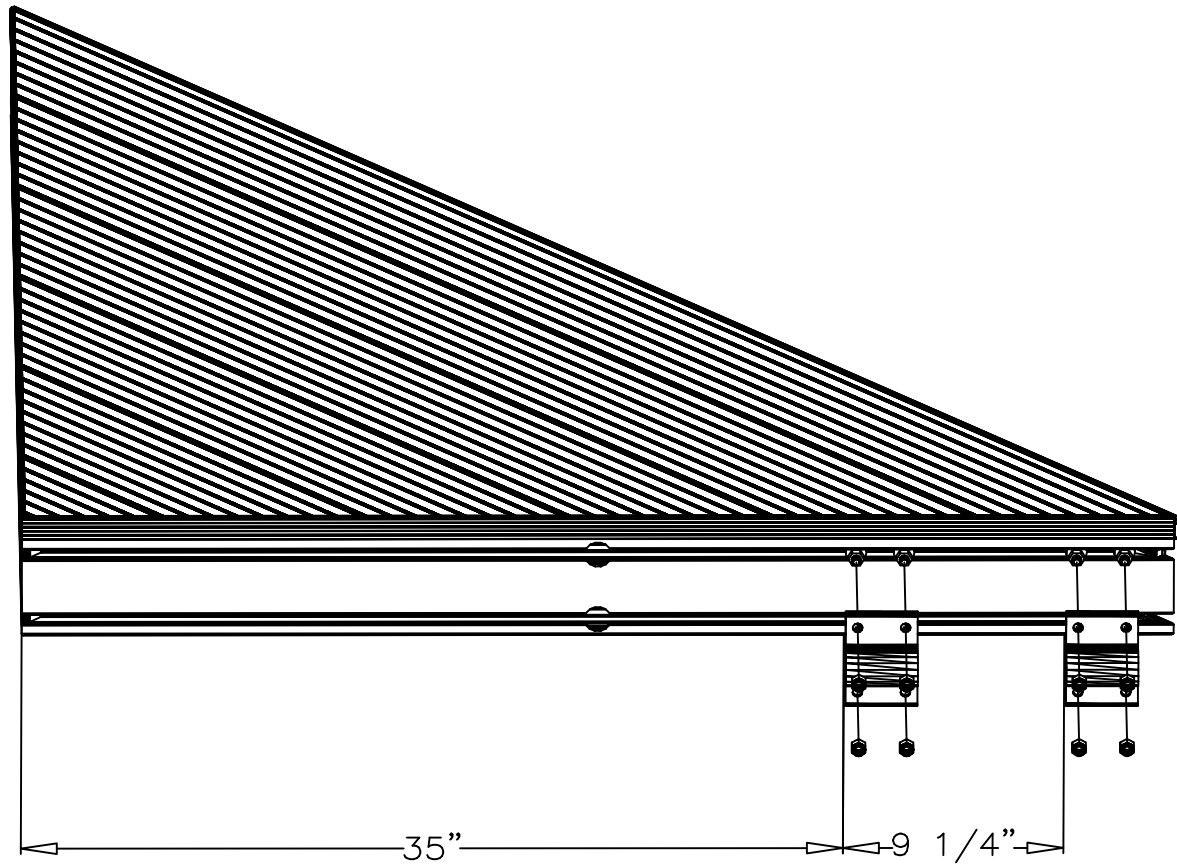

Fig. 5A
Determine the location of the 3" hinge sections to be attached to the wedge. Insert (4) 3/8" x 1" bolts w/ (4) 3/8" flatwashers into the upper nut track. Repeat the same procedure in the lower nut track. Insert (2) bolts with flatwashers from the upper nut track, & (2) bolts with flatwashers through the 3" hinge section. Thread (1) 3/8" nylock on each bolt. Follow the same procedure with the other 3" hinge section. Locate the 3" hinge sections with the dimensions shown in Fig. 5A & tighten (8) 3/8" nylock nuts to 40 ft/lbs.